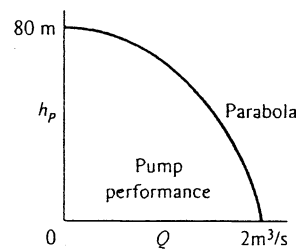

Fig. P6.80
**6.80** The head-versus-flow-rate characteristics of a centrifugal pump are shown in Fig. P6.80. If this pump drives water at 20°C through 120 m of 30-cm-diameter cast-iron pipe, what will be the resulting flow rate, in m3/s?
**6.81** The pump in Fig. P6.80 is used to deliver gasoline at 20°C through 350 m of 30-cm-diameter galvanized iron pipe. Estimate the resulting flow rate, in m3/s. (Note that the pump head is now in meters of gasoline.)